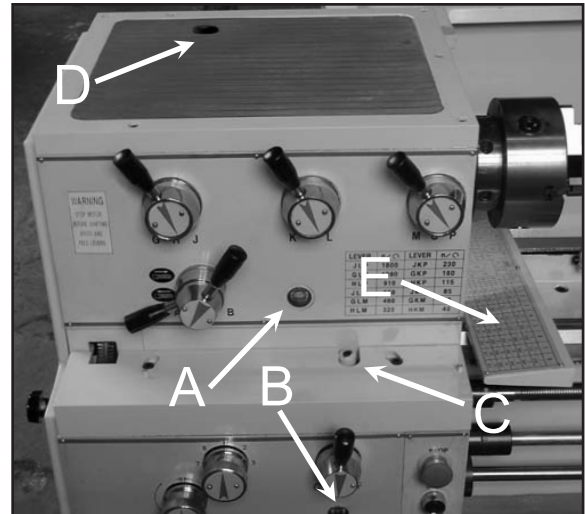
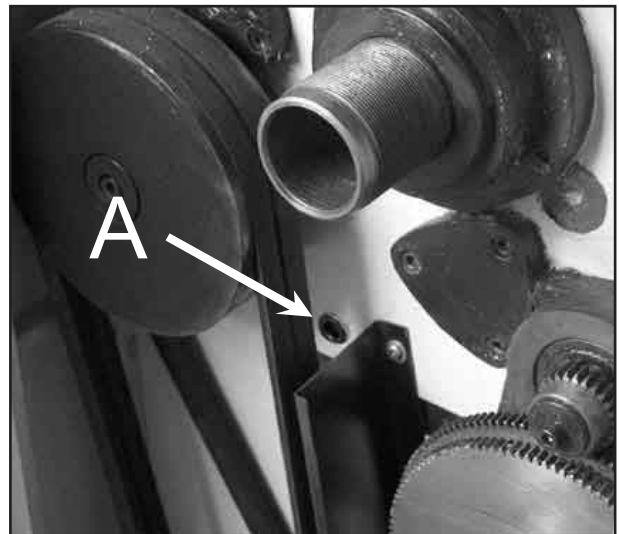
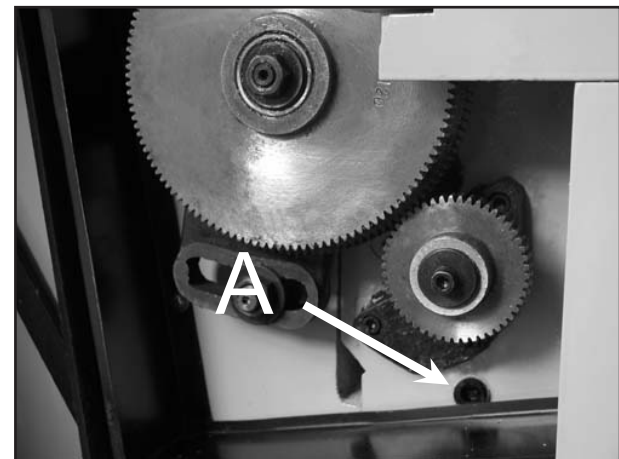

Fig. 3
Fig. 4
Fig. 5
5. Lift the chuck up to the spindle nose and press onto the spindle. Tighten in place by turning the cam locks 1/4 turn clockwise. The index mark (A, Fig. 3) on the camlock should be between the two indicator arrows (B, Fig. 3). If the index mark is not between the two arrows, remove the chuck and adjust the camlock studs by either turning out one full turn (if cams will not engage) or turning in one full turn (if cams turn beyond indicator marks).
1. Headstock - Oil must be up to indicator mark in oil sight glass (A, Fig. 3). Top off with Mobil DTE® Oil Heavy Medium. Fill by pulling plug (D, Fig. 3). To drain, remove drain plug (A, Fig. 4) with an 8mm hex wrench. Drain oil completely and refill after the first month of operation. Clean out any metal shavings. Then, change oil in the headstock annually.
2. Gearbox - Oil must be up to indicator mark in oil sight glass (B, Fig. 3). Top off with Mobil DTE® Oil Heavy Medium. Fill by lifting off thread chart cover (E, Fig. 3) and remove plug (C, Fig. 3) with an 8mm hex wrench. To drain, remove drain plug (A, Fig. 5) with an 8mm hex wrench. Drain oil completely and refill after the first month of operation. Then, change oil in the Gearbox annually.